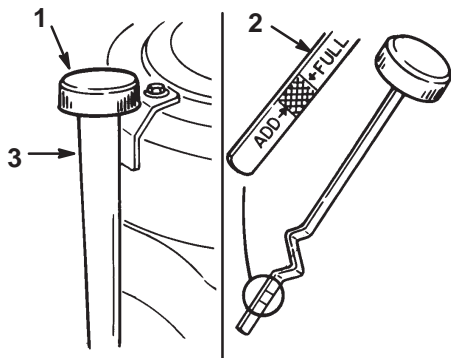

Figure 18
3. Clean around the oil dipstick (Fig. 18) so dirt cannot fall into the filler hole and damage the engine.
- Unscrew the oil dipstick and wipe the metal end clean (Fig. 18).
- Screw the oil dipstick fully onto the filler tube (Fig. 18). Unscrew the dipstick again and look at the metal end. If the oil level is low, slowly pour only enough oil into the filler tube to raise the level to the Full mark. Tighten the dipstick.
- Slowly pour approximately 80% of the specified amount of oil into the filler tube (Fig. 18). Check the oil level; refer to Checking the Oil Level, page 20. Slowly add additional oil to bring the level to the Full mark on the dipstick.